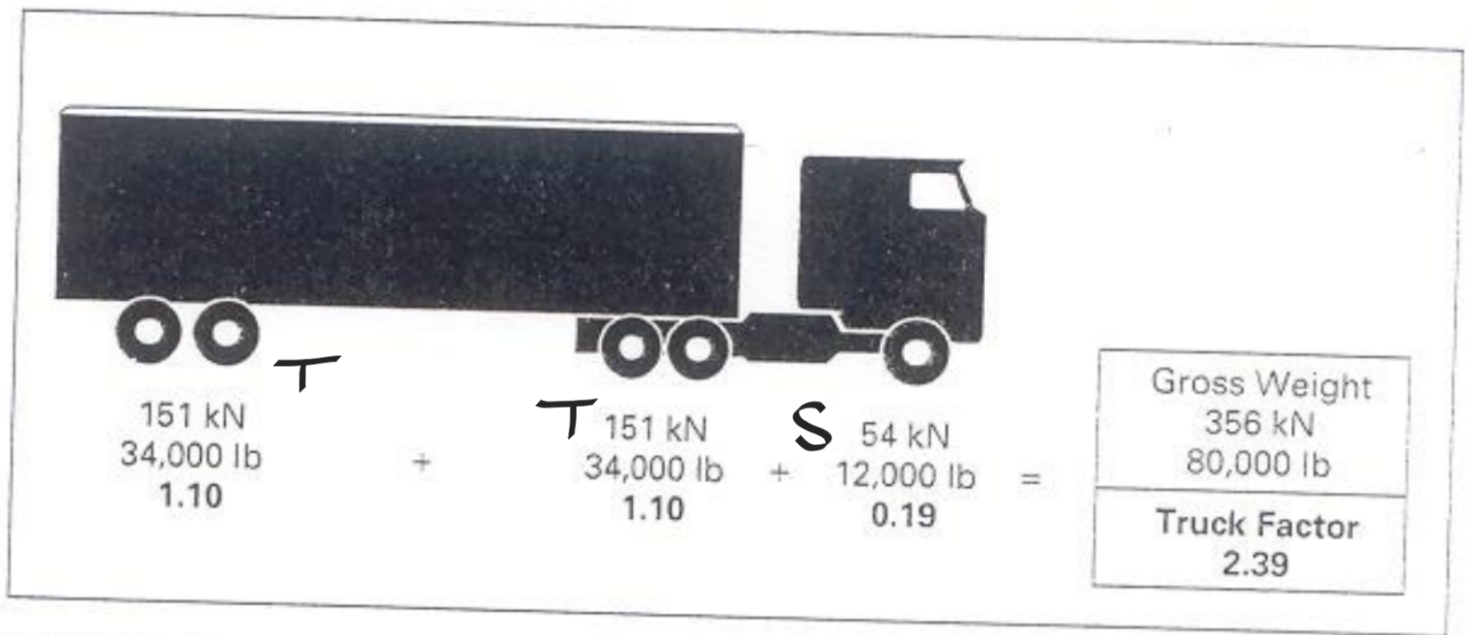

FIGURE 16-8 Load-equivalency factors and the truck factor for a single-tractor semitrailer truck. (Courtesy the Asphalt Institute.)
- See Truck Factor Example provided in **Figure 16.8** Ref. and example in **Table 20.8** in text.